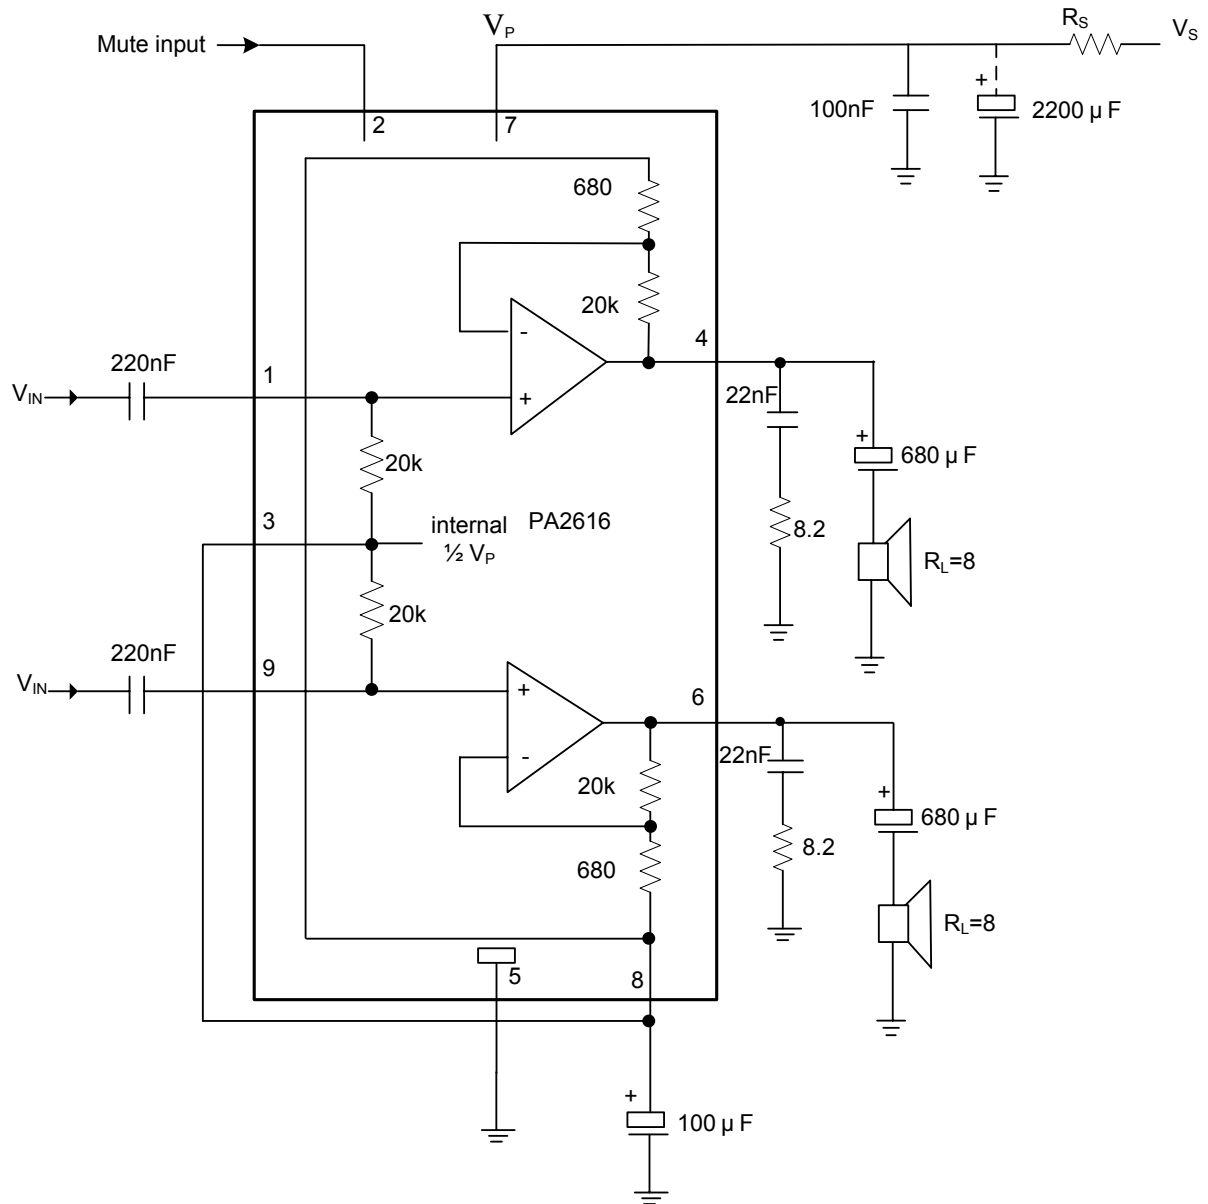

Fig. 2 Test and Application Circuit with Asymmetrical Power Supply
6.  $V_P = 24$  V;  $R_L = 8 \Omega$ ;  $T_a = 25 \text{ }^\circ\text{C}$ ;  $f = 1$  kHz; asymmetrical power supply  $I_{MUTE} < 30 \mu A$ . See Fig.2